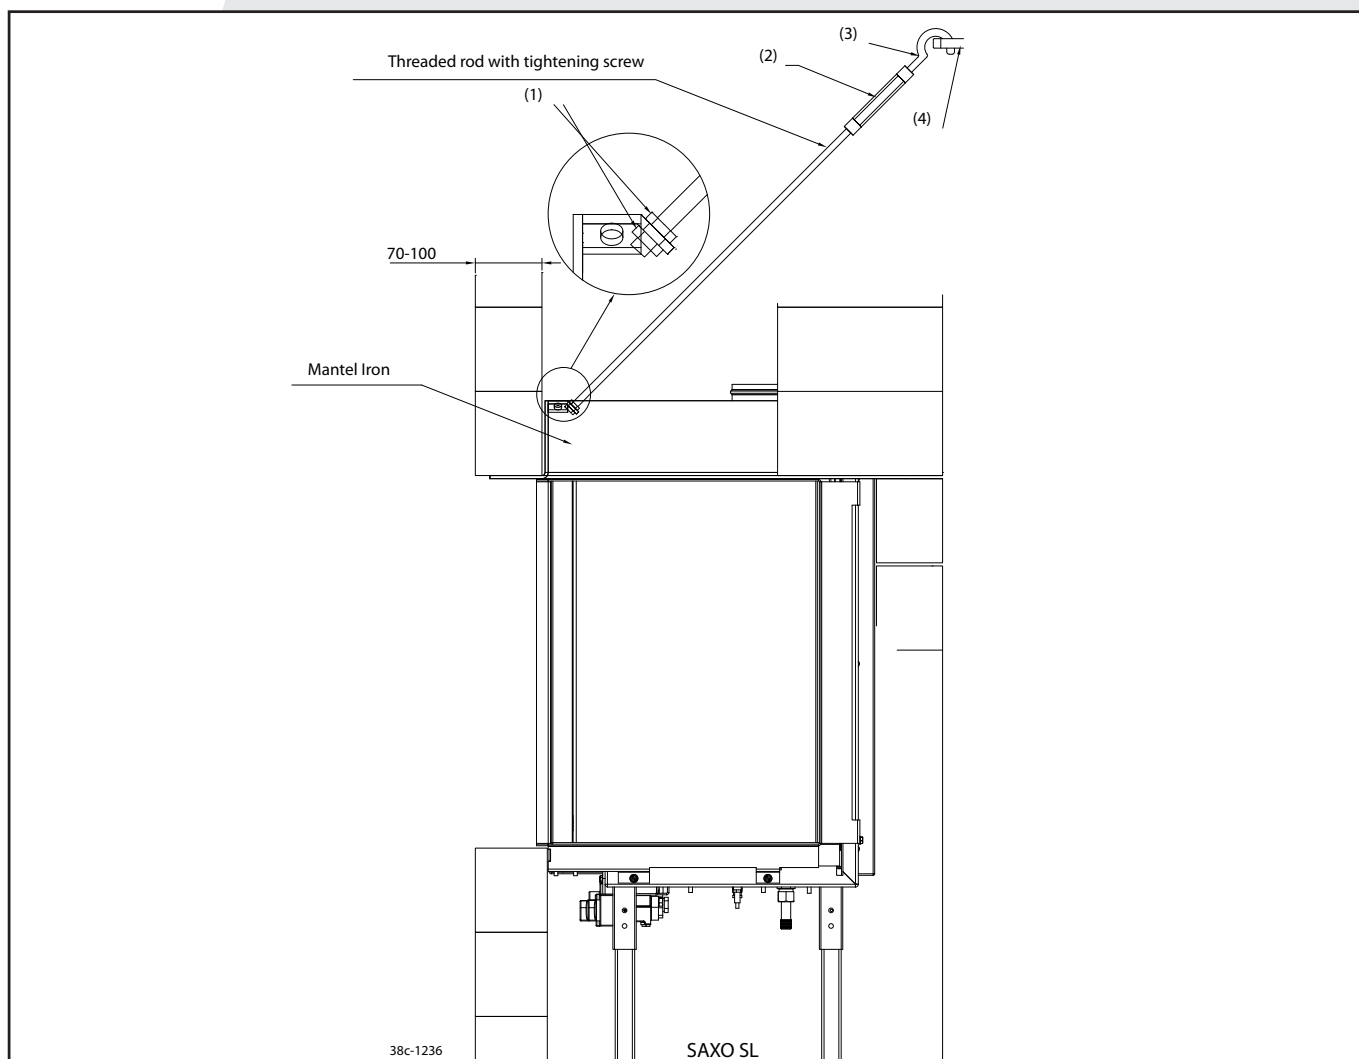

fig. 3
Position the iron mantel as illustrated in fig. 3.
- Select the required connection from the options shown in figure 3.